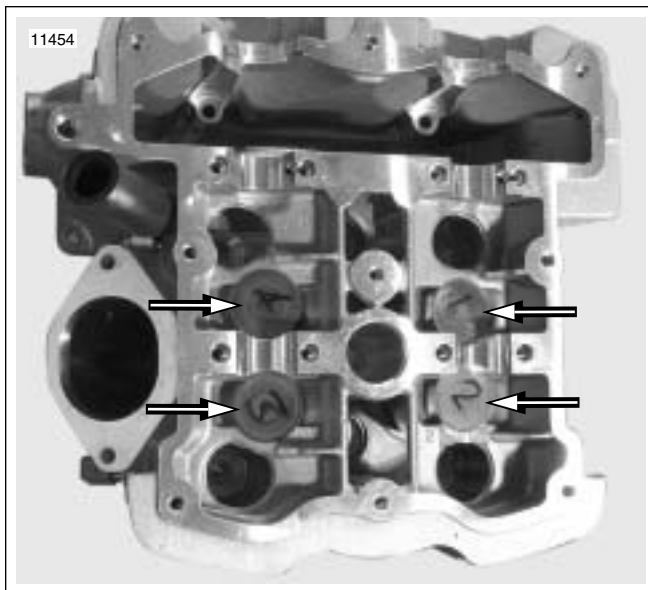

Figure 3-40. Number Tappets
5. See Figure 3-40. Clean oil film from tappets and use marker to number tappets according to the cast in number at each valve. Remove tappets and shims and keep together for assembly in same position.